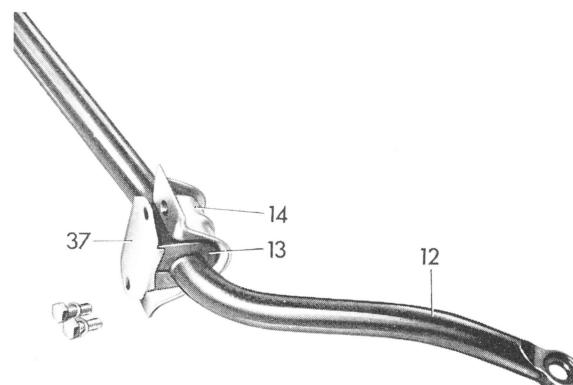

Fig. 2
4 Slide rubber mounting on torsion bar with parting slot toward front, attach locking plate (37) and mount torsion bar bearing to frame floor (Fig. 2 and 3). Align torsion bar prior to tightening hex. bolts.